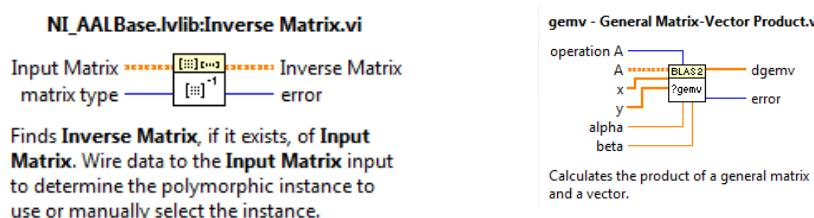

Fig. 7. Inverse Matrix.vi and General Matrix-Vector Product.vi.
- You can use **Inverse Matrix.vi** and **General Matrix-Vector Product.vi** functions shown in Fig. 7 for matrix operations in optimum filtering.